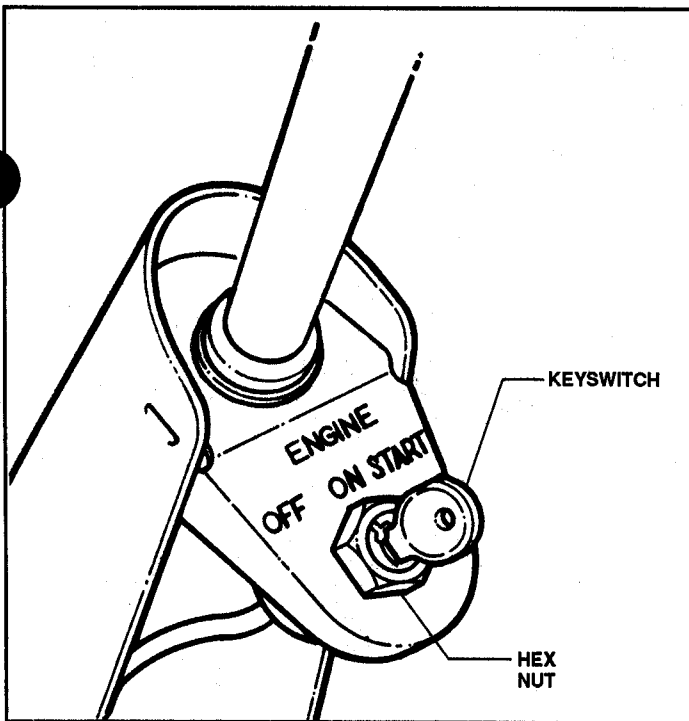

FIGURE 5.7
- A. Remove ignition switch (throttle control, if applicable) from center plate. See Figure 5.7.